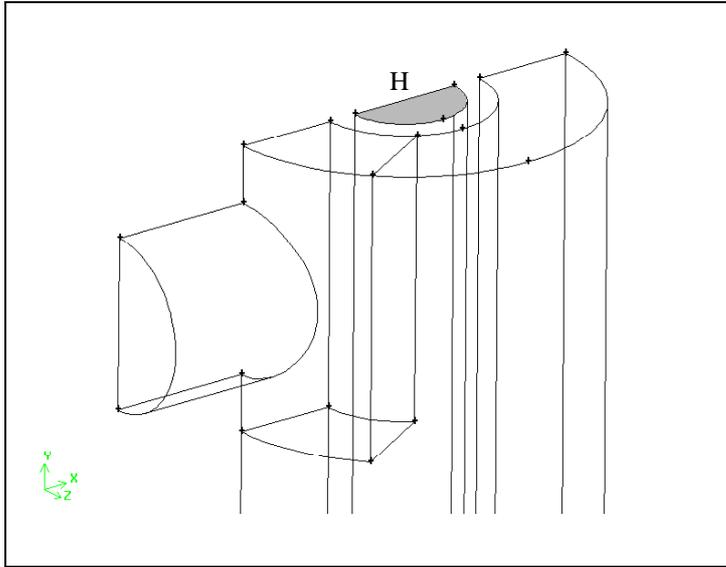

Figure 7-40: Face to be modified
2. Set the meshing size on the face marked H in Figure 7-40.
- a) Select the face marked H in Figure 7-40 in the graphics window (the face at the end of the pipe).